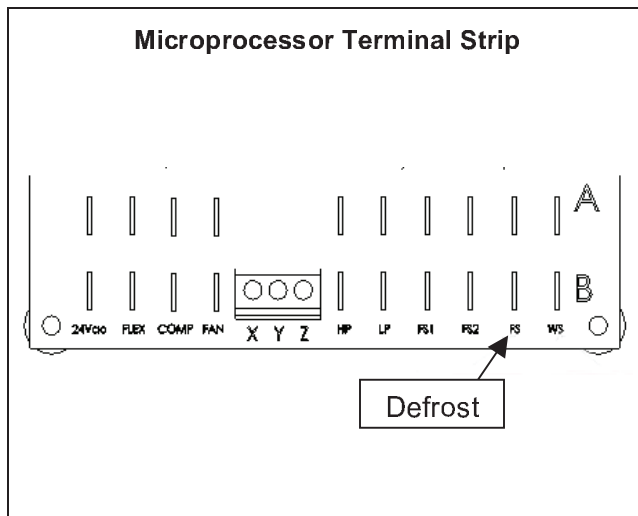

Figure 1
- 3) Locate the "FS" connection on the right side of the microprocessor terminal strip. See Figure 1. Disconnect the sensor wires from the terminal strip.